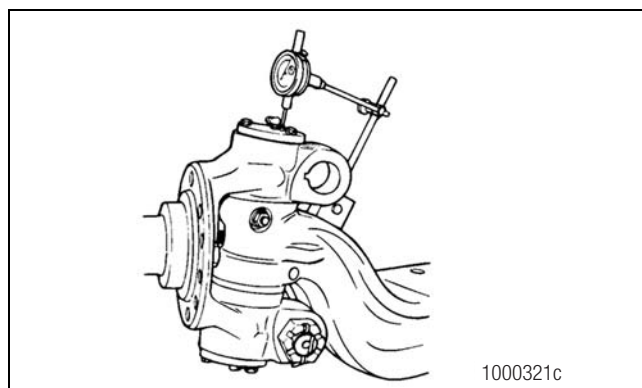

Figure 6.7
3. Install a dial indicator with the base on the I-beam and the tip on the top knuckle cap. Figure 6.7.